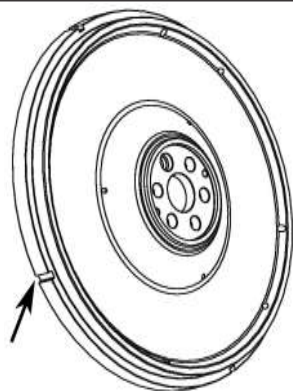

Fig. 4
**Flywheel** - machined with 4 slots on the periphery to facilitate engine speed sensing by engine speed sensor. These slots are equispaced and dimensions are controlled to achieve perfect speed pulse output waveform from the speed sensor. **Fig. 4**